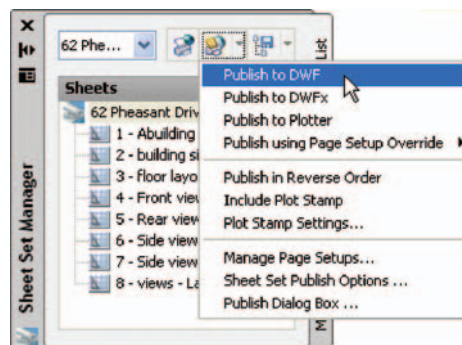
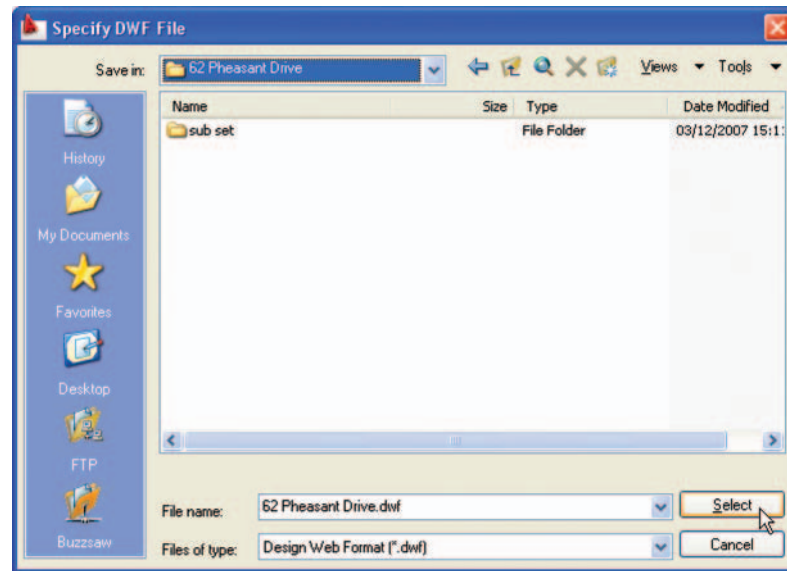
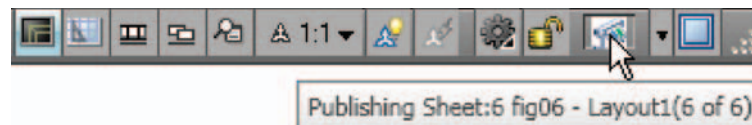
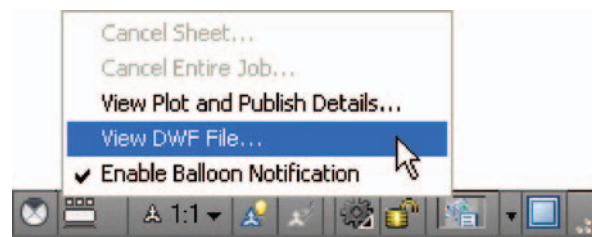

Fig. 11.10 The **Publish to DWF** icon in the **Sheet Set Manager**
Fig. 11.11 The Select DWF File dialog
Fig. 11.12 The Publish Job in Progress icon
Fig. 11.13 The right-click menu of the icon
1. In the **62 Pheasant Drive Sheet Set Manager** *click* the **Publish to DWF** icon (Fig. 11.10). The **Select DWF File** dialog appears (Fig. 11.11). *Enter* **62 Pheasant Drive** in the **File name** field followed by a *click* on the **Select** button. The **Publish Job in Progress** icon in the bottom right-hand corner of the AutoCAD 2009 window starts fluctuating in shape, showing that the DWF file is being processed (Fig. 11.12). When the icon becomes stationary, *right-click* the icon and *click* **View DWF file** in the *right-click* menu which appears (Fig. 11.13).